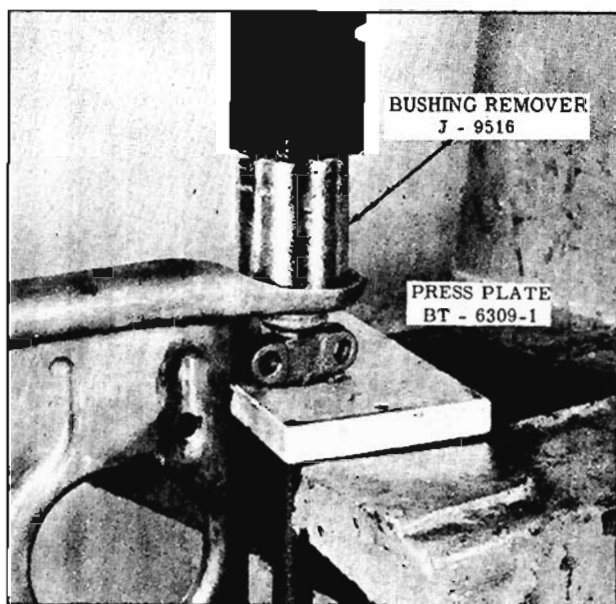

Fig. 9-21 Partial Pivot Shaft Bushing Removal
3. Place control arm assembly and tools in a press as shown in Figure 9-21 and press bushing out of control arm as far as possible.